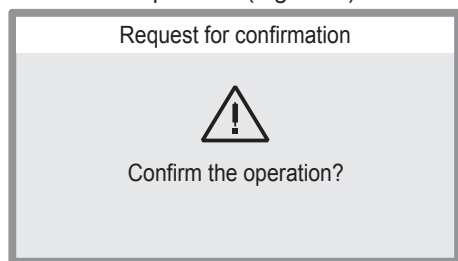

Fig. 2.45
- Press key 14 and wait 1 second.
- Press key 14 again.
- Press key 15 to reset the fault or key 16 to cancel the operation (Fig. 2.45).